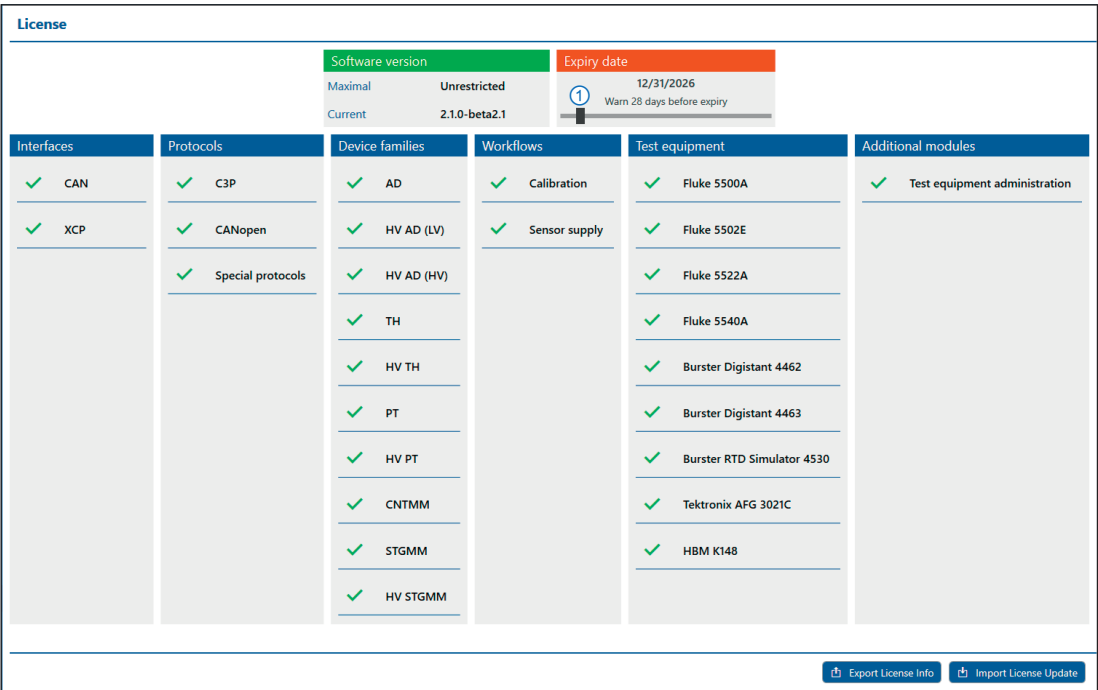

Fig. 3-31: License menu
The slider in the info box **Expiry date** (Fig. 3-31, ①) can be used to set the time span in days until the software license expires. At the beginning of the specified time span, a warning message appears after the program start indicating the license expiry date.